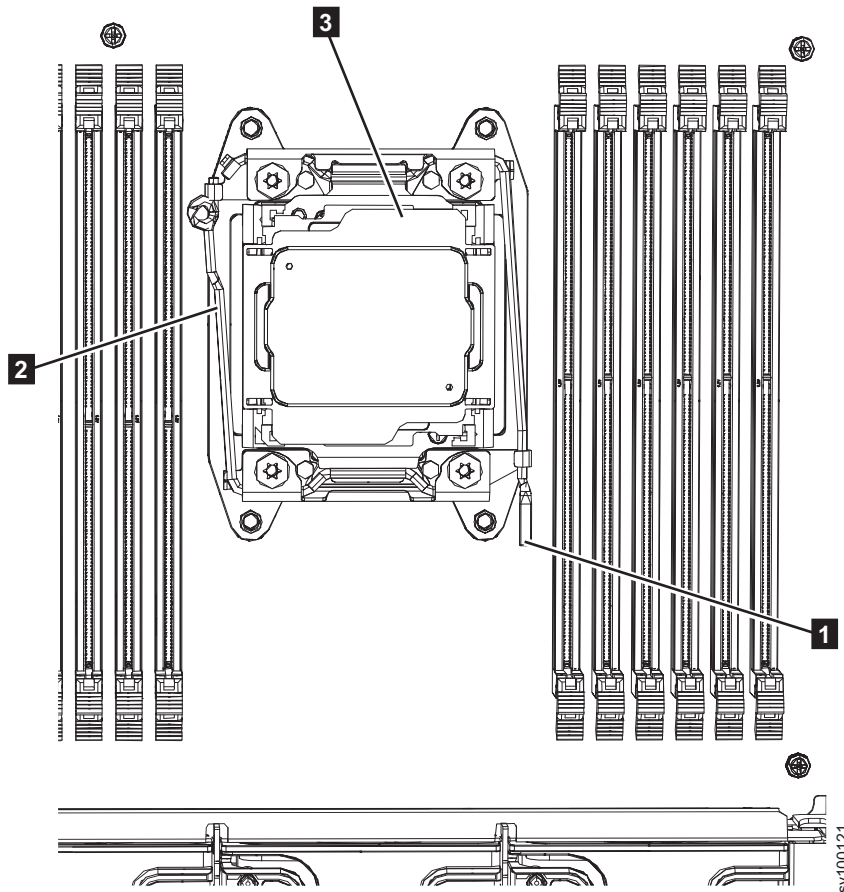

Figure 187. Opening the release levers
4. Open the microprocessor socket release levers and retainer, as shown in Figure 187.